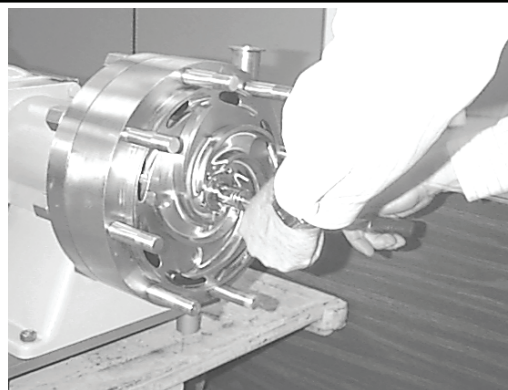

Figure 19
6. Remove retainer bolt. (Figure 19)